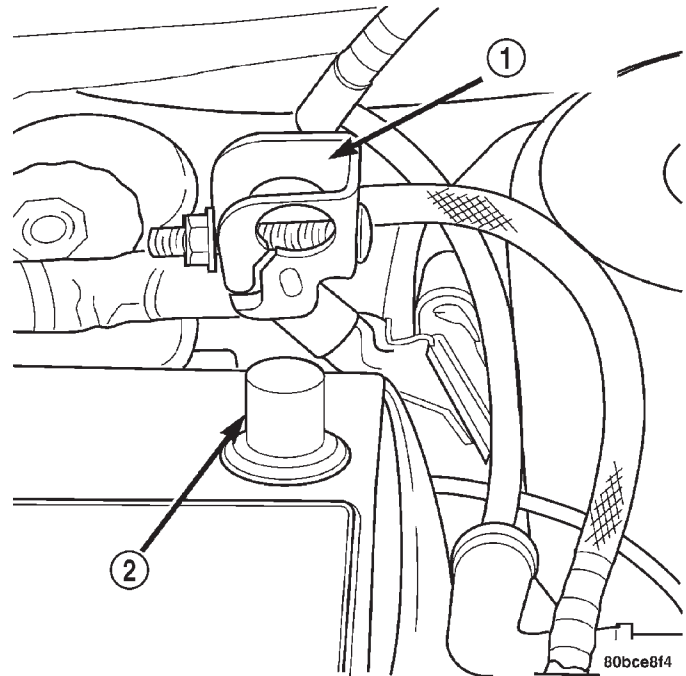
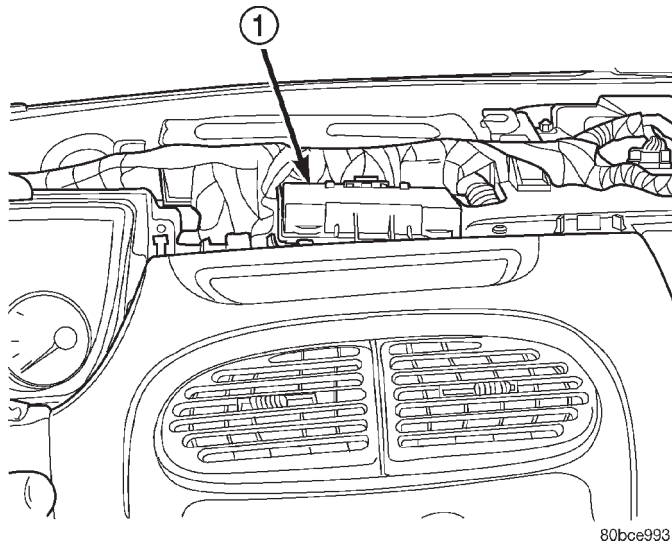

Fig. 2 Battery Negative Cable Remove/Install
Fig. 3 RKE Module Location
- (1) Disconnect and isolate the battery negative cable (Fig. 2).
- (2) Raise deck lid to the full up position.
- (3) Unplug connector from solenoid.
- (4) Remove two solenoid mounting screws.
- (5) Remove solenoid from vehicle.
- (2) Remove the instrument panel top cover. Refer to Group 8E-Instrument Panel and Systems, Instrument Panel Top Cover Removal and Installation.
- (3) Remove the two screws holding the RKE module to the instrument panel assembly (Fig. 3).
- (4) Slide locking tab of the wiring connector sideways to unlock tab, and remove connector from RKE module.
- (5) Remove RKE module from vehicle.